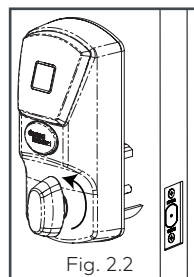

Fig. 2.2
6. Retract deadbolt from outside. See Fig. 2.2.